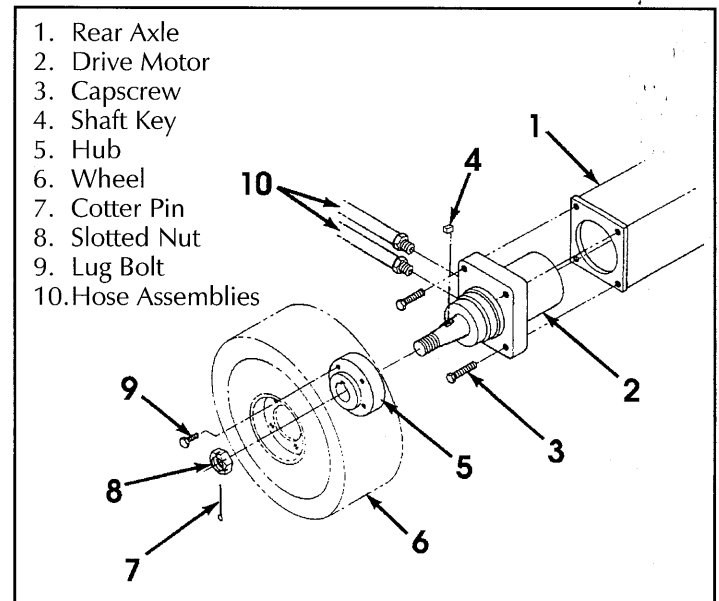

Figure 4-15: Drive Motor Installation
4.9 Hydraulic Drive Motors And Hubs (Figure 4-15)